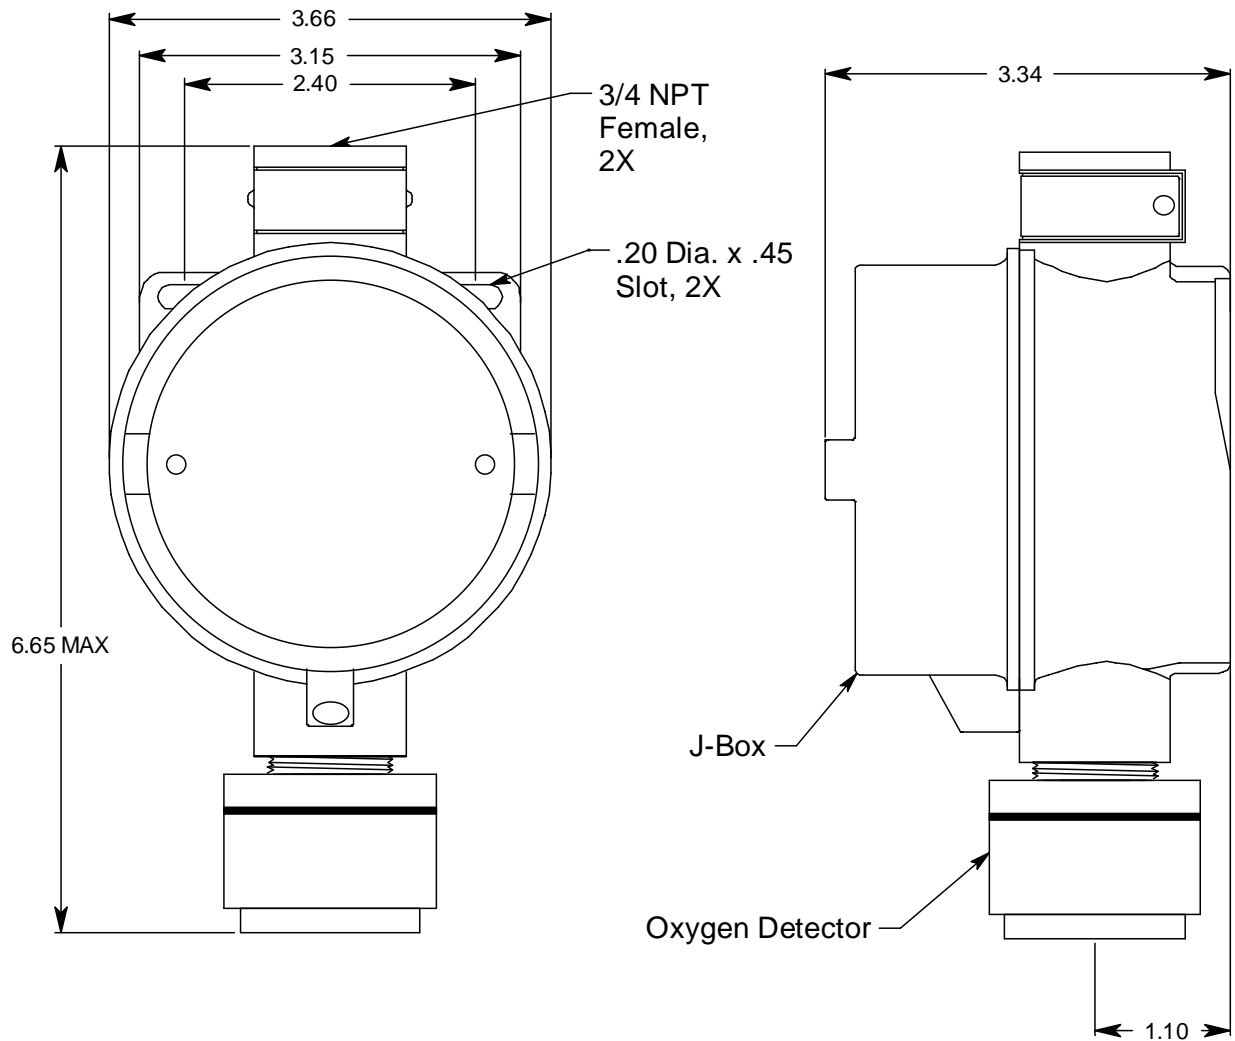

Figure 3: Outline & Mounting Dimensions
2. At the mounting site you select, hang or mount the junction box with the detector facing down (see Figure 3).